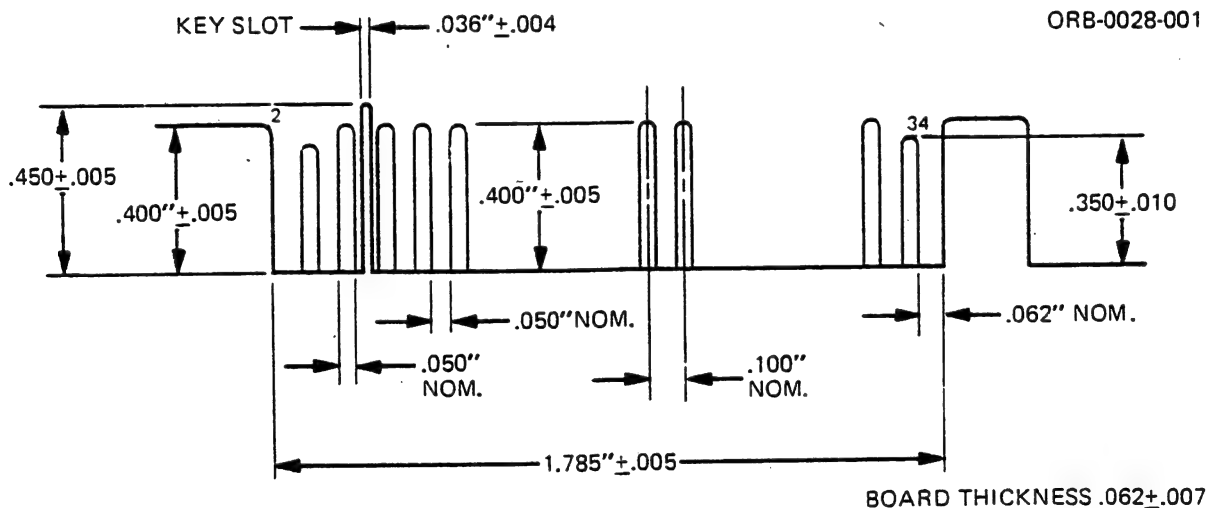

Figure 2-3. Connector Dimensions - J1
2.3.1.1 Signal Interface Connector. The signal interface (J1) is a 34-pin PWB edge connector with dimensions as shown in Figure 2-3. Even-numbered pins are located on the component side of the PWB; while odd-numbered pins are located on the solder side. Pin 2 is located closest to the corner of the board. A slot is provided between pins 4 and 6 for connector keying. The recommended connectors for P1 are listed in Table 2-1.